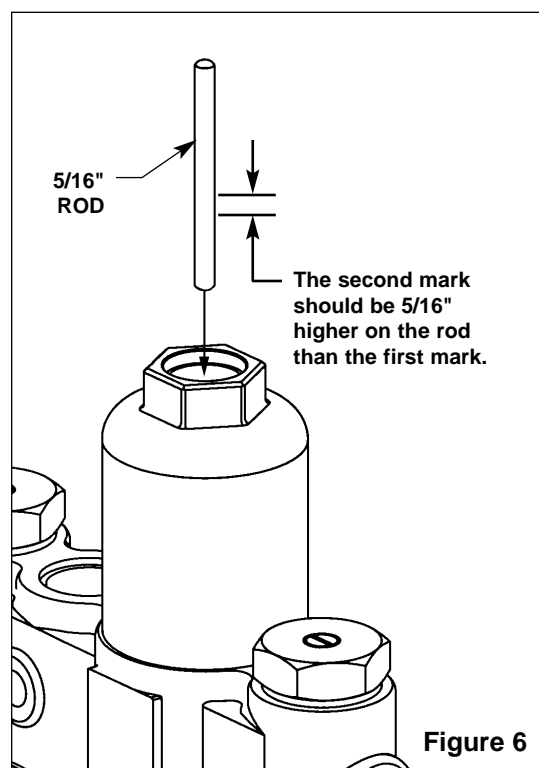

Figure 6
2. Insert a 5/16" dia. rod into the valve and into the piston overheating chamber. Mark the length of the rod inside the valve (see Figure 6).
3. Push the rod until the piston stops and mark the new length of the dowel (the new length should be approximately 5/16" longer than the original length) (see Figure 6). If the length of the dowel is not as it should be, the piston is not moving freely and needs to be cleaned along with the piston liner. Clean the piston and liner following the method outlined below: